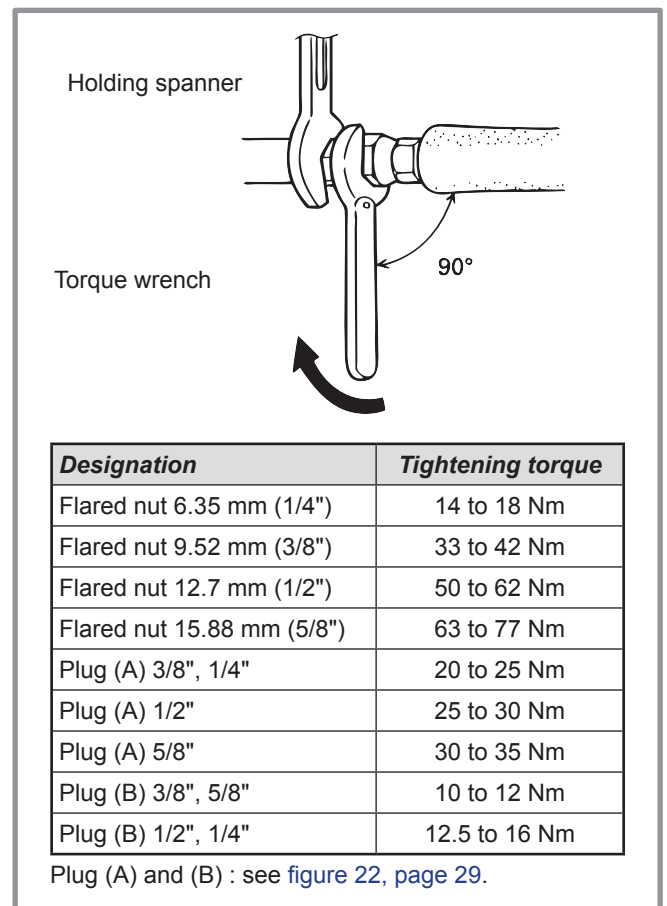

figure 20 - Tightening torques
- Refit the 2 original caps (be sure they are clean) and tighten them to the recommended tightening torque indicated in the table figure 20, page 27. A seal is achieved in the caps only with metal to metal.